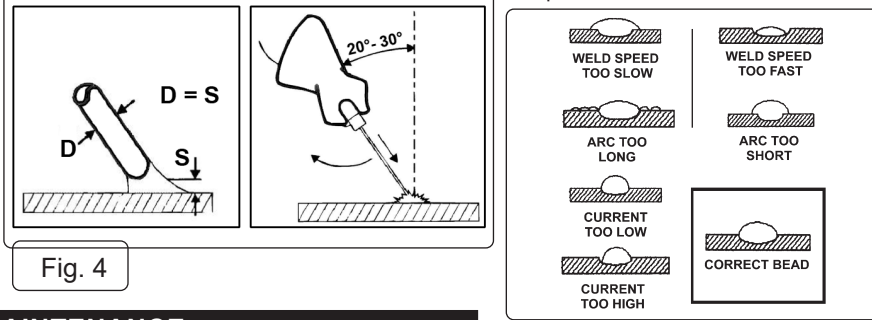

Fig. 4
- 5.1.2. As soon as the arc is struck, maintain a distance from the workpiece equal to the diameter of the electrode. Keep this distance as constant as possible for the duration of the weld. As you advance along the workpiece the angle of the electrode must be maintained at between 20° and 30°. See fig.4.